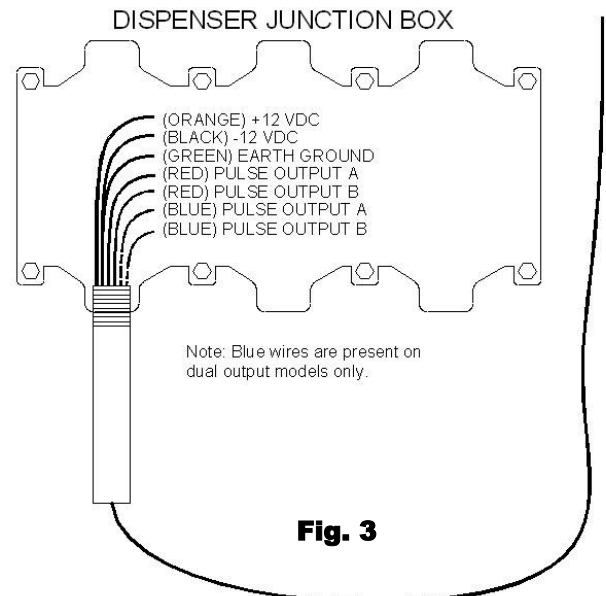

Fig. 3
6. Mount the barrier and connect the wires as shown in Fig. 3. The pulser should be wired so that power is applied only when the handle switch is on. Note that the pulse output is a contact closure type, and the red wires (and blue wires for dual output models) are not polarity sensitive.